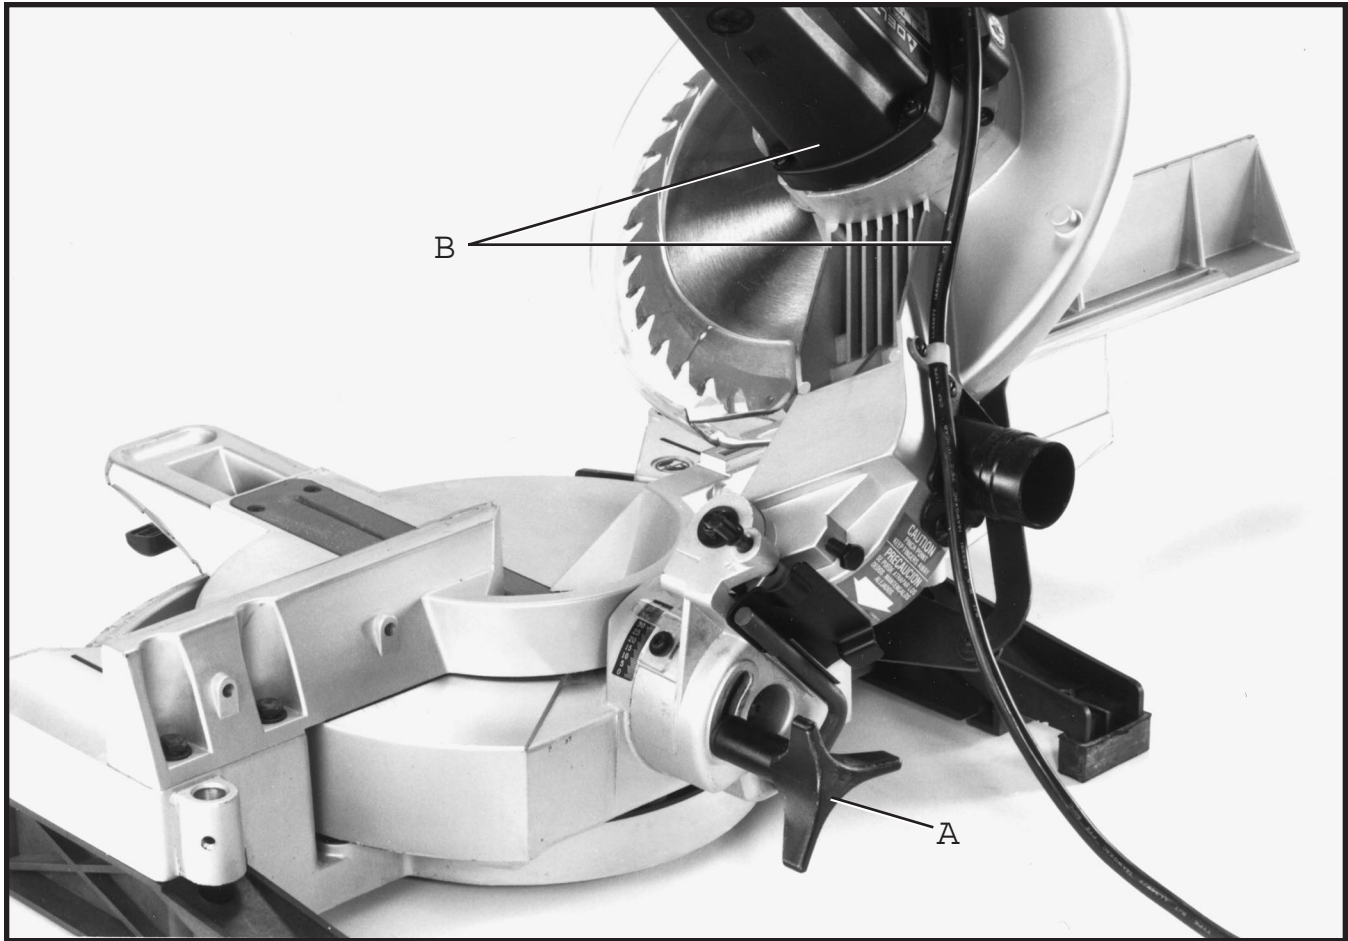

Fig. 27
1. The cuttinghead of your compound miter saw can be tilted to cut any bevel angle from a 90 degree straight cut-off to a 45 degree left bevel angle by loosening bevel lock handle (A) Fig. 27, tilting cuttinghead (B) to the desired angle, and tightening lock handle (A).